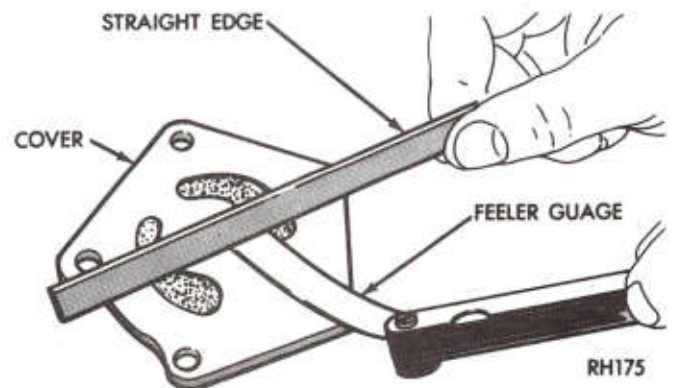

Fig. 58—Checking Oil Pump Cover Flatness
(1) Clean all parts thoroughly. Mating surface of the oil pump cover should be smooth. Replace pump assembly if cover is scratched or grooved.
(2) Lay a straight edge across the pump cover surface (Fig. 58). If a .0015 inch (.038mm) feeler gauge can be inserted between cover and straight edge, pump assembly should be replaced.